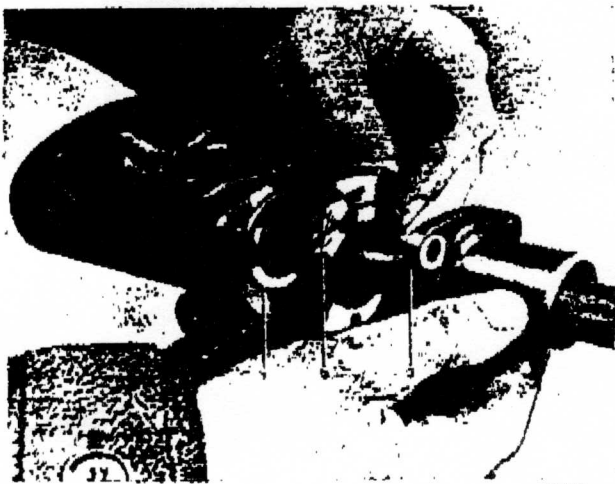

Fig. 32. Adjusting bearing clearance.
4. Place the steering worm in the housing. Fit the upper cover, see Fig. 32. Adjust with shims so that the steering column moves easily but without any play when the bolts are tightened. Be careful to ensure that the bearings are not damaged if too many shims are removed.